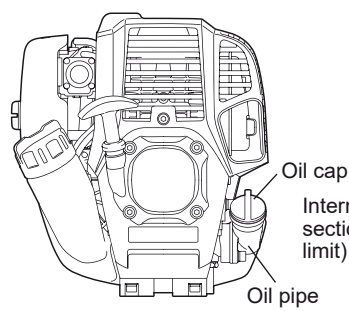
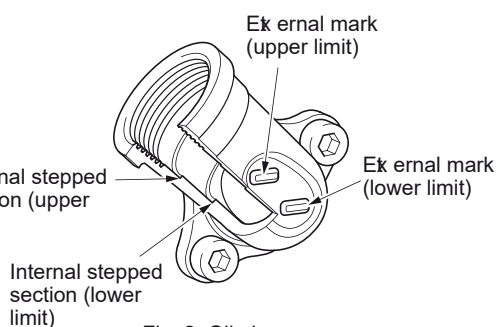

Fig. 1
Fig. 2 Oil pipe
- Set the engine level, remove oil cap (Fig. 1), and check to see whether or not there is oil in the range between the upper limit and lower limit mark of the oil pipe (Fig. 2).